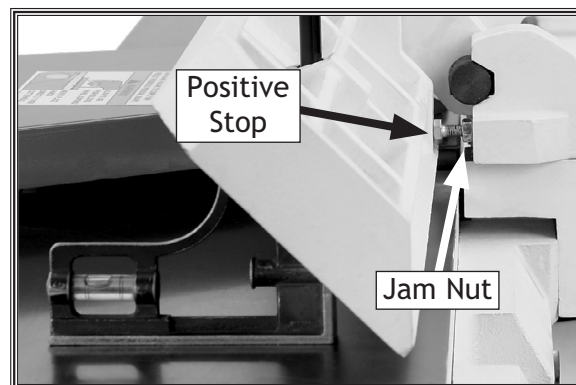

Figure 60. Fence adjusted 45° inward.
1. Tilt the fence approximately 45° inward (**Figure 60**) onto the positive stop bolts, using a 45° square as a gauge.
2. Loosen the jam nut on the 45° inward positive stop bolt shown in **Figure 60**.